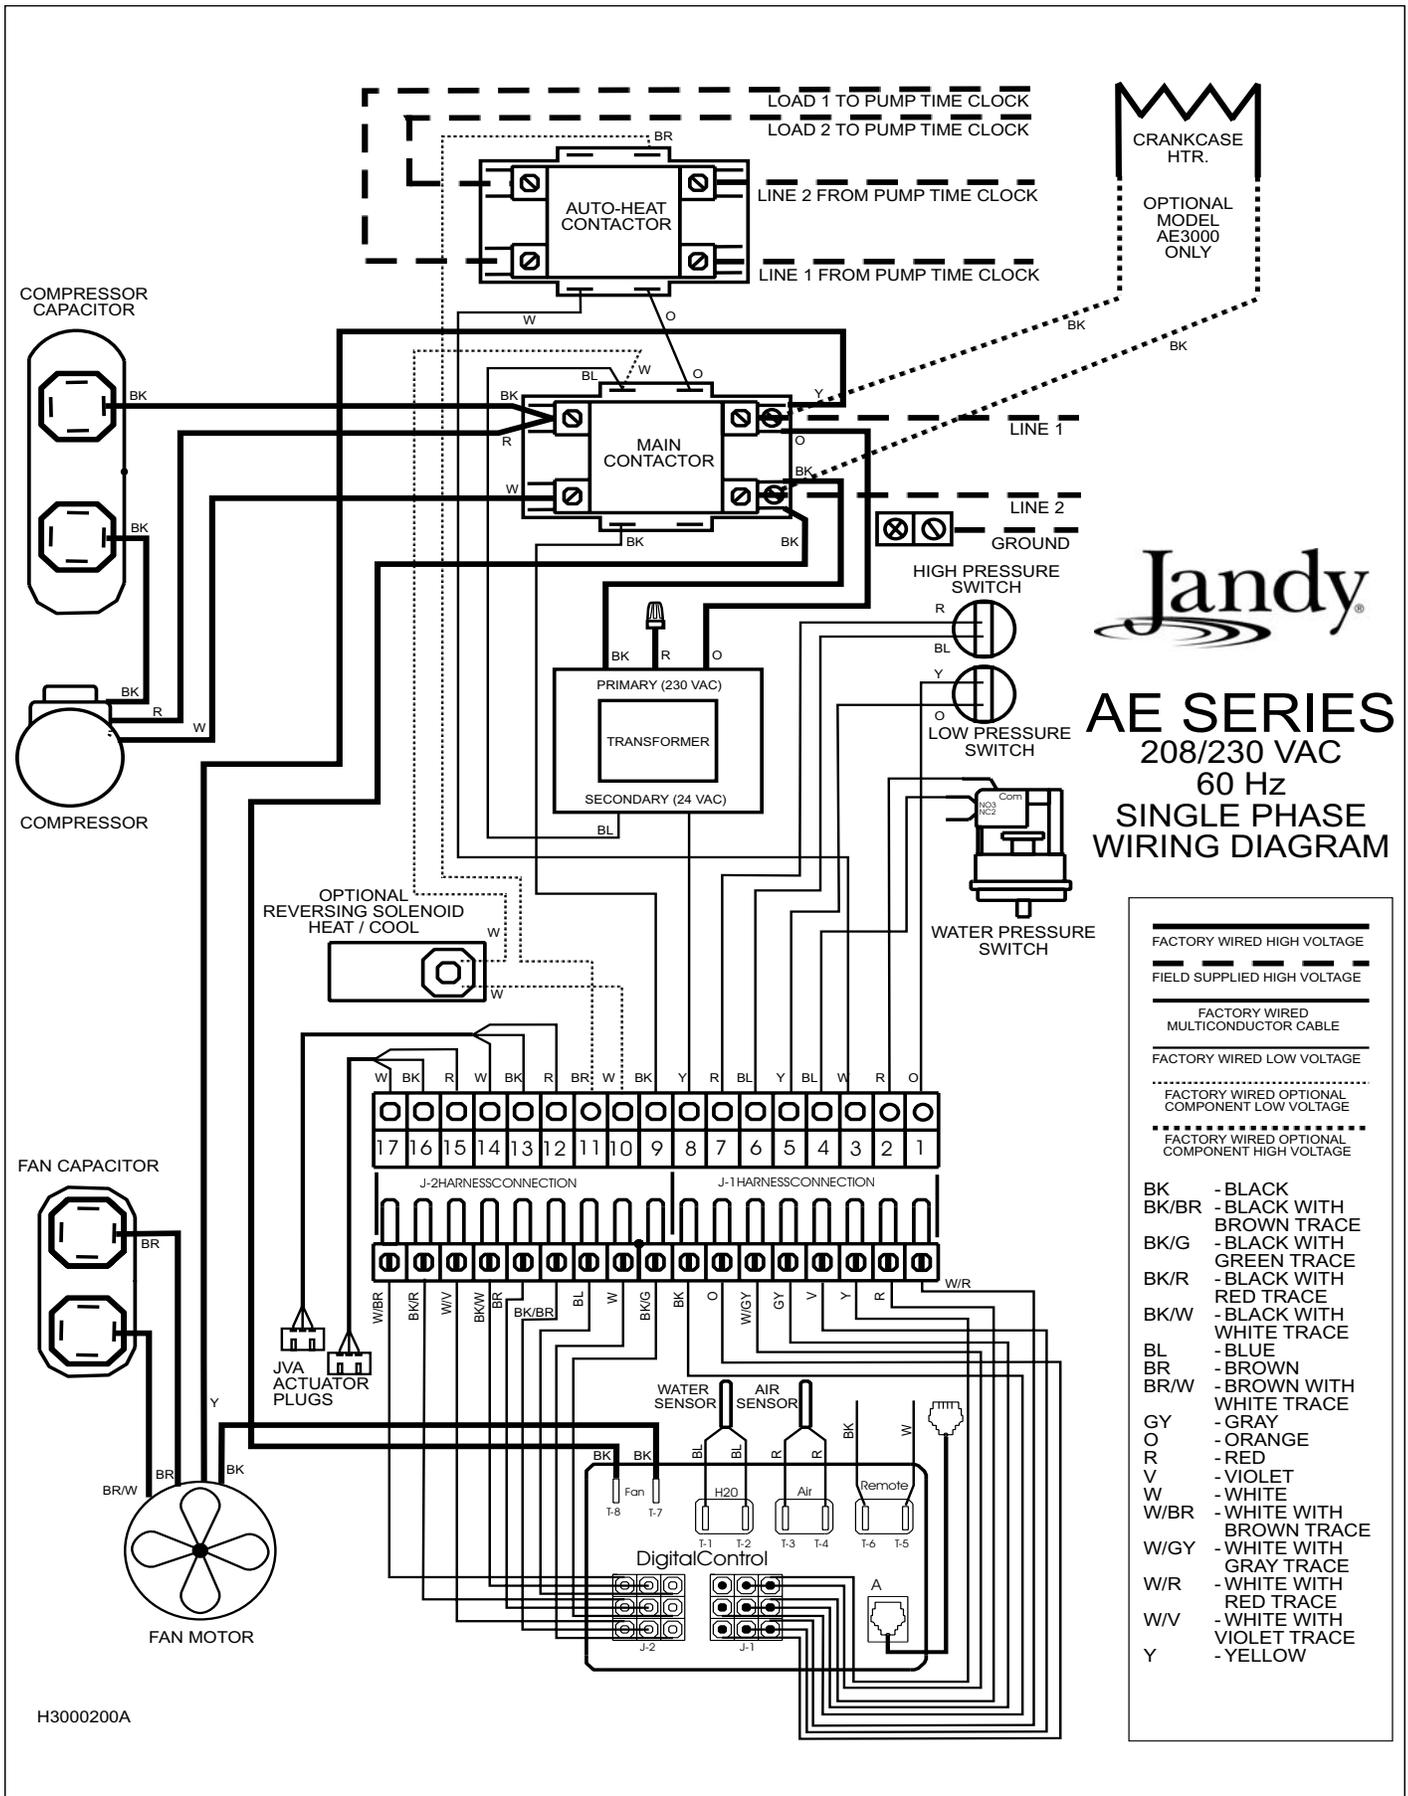
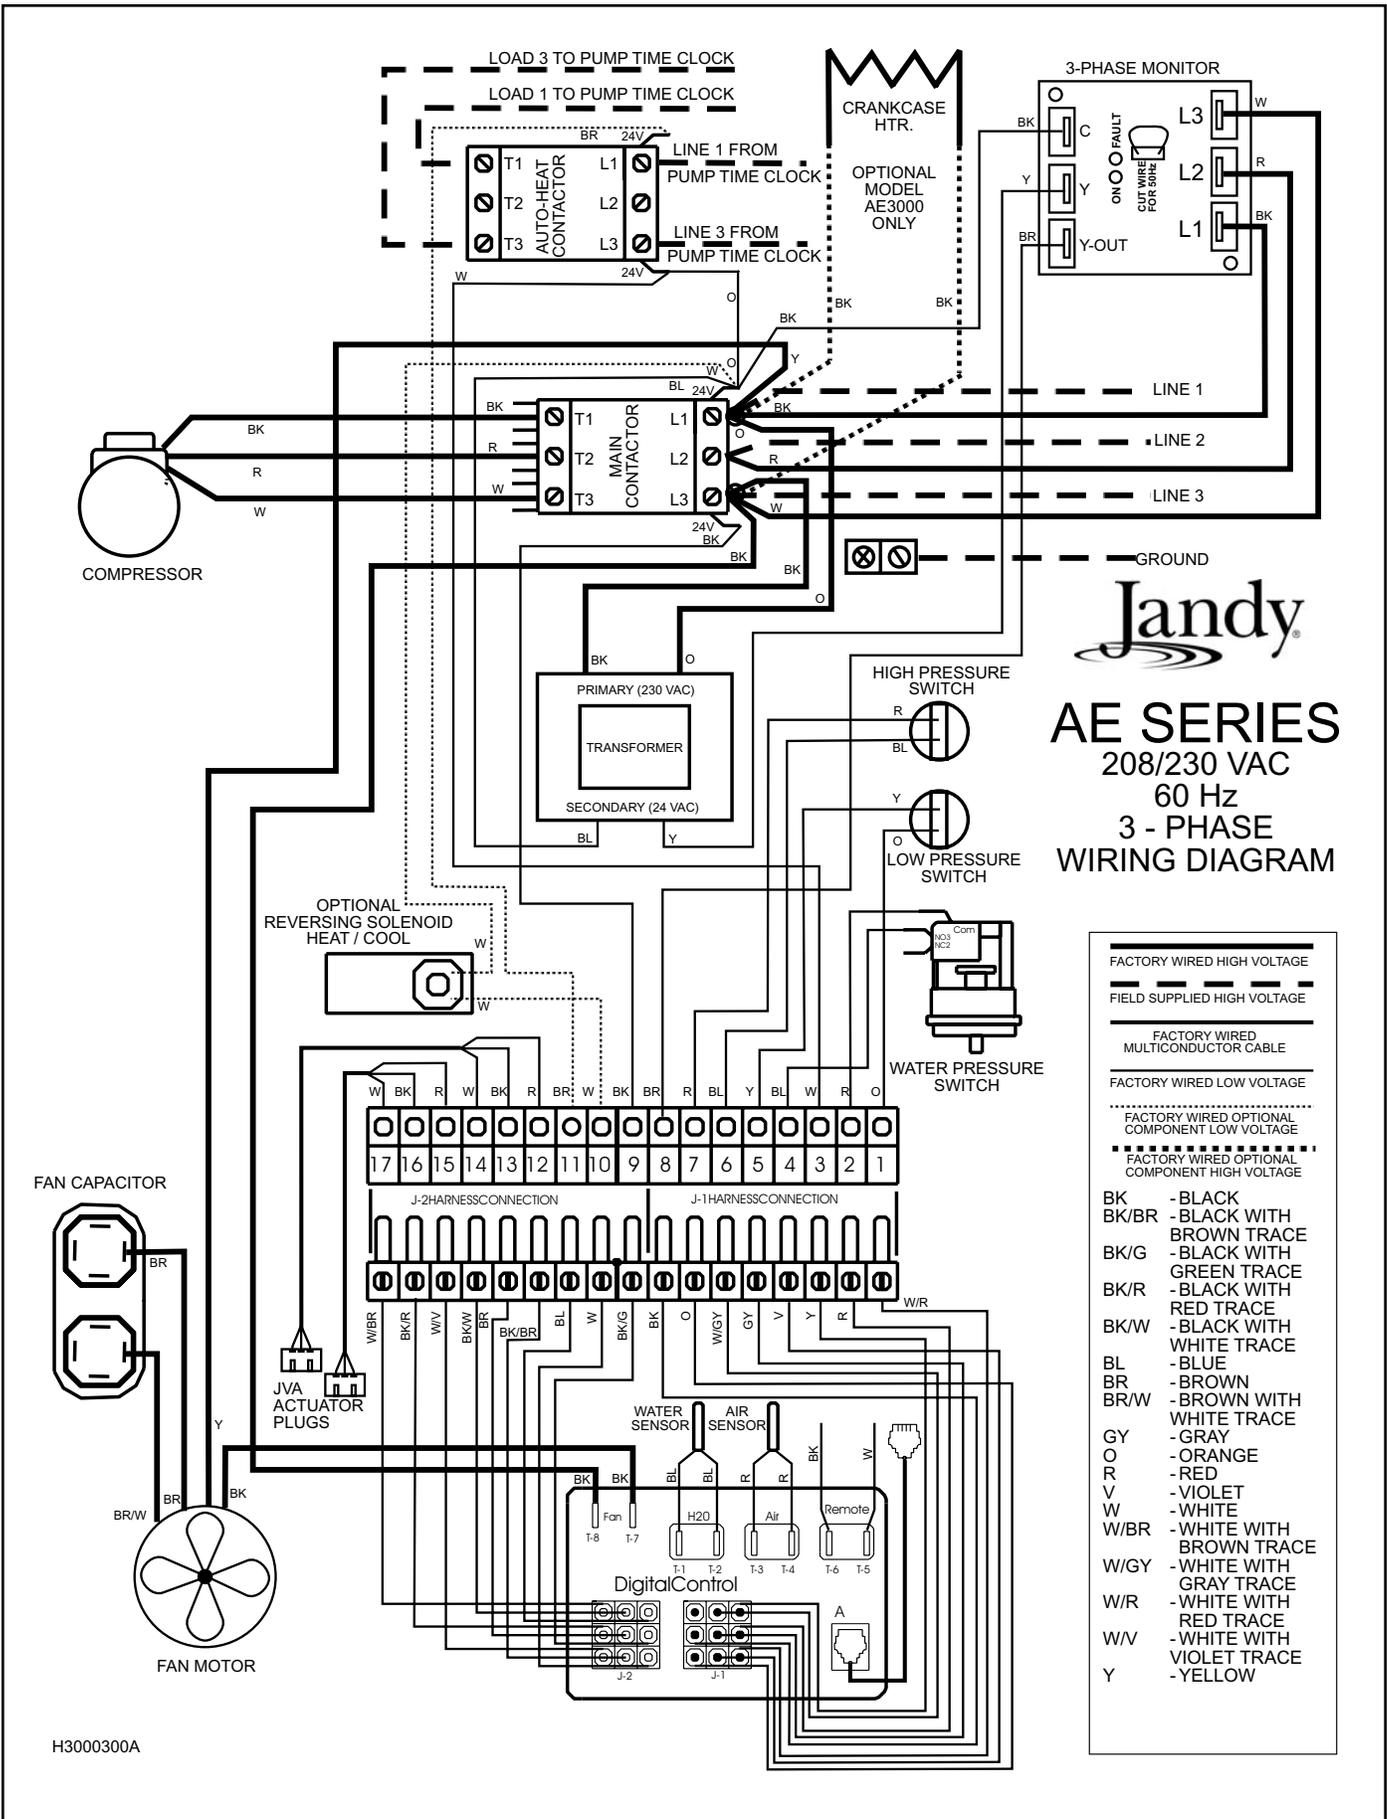

Figure 10. AE-Ti Single-Phase Electrical Supply Wiring Diagram
Figure 11. AE-Ti 3-Phase Electrical Supply Wiring Diagram
Wiring connections must be made exactly as shown in the wiring diagram found on the inside of the heat pump access compartment (see Figure 10 for single phase electrical wiring and Figure 11 for 3-phase electrical wiring). The heat pump must include a definite means of grounding and bonding. There is a bonding lug on the right side of the heat pump, where a bond wire must be attached.
*(Residential only)* When connecting the time clock override parallel circuit, proper phasing must be maintained. Use 12 AWG wire. Follow the wiring diagram on the service access panel of your heat pump, referring to the auto-contactor section (see Figures 10 and 11 on pages 13 and 14). The use of four different color wires will help in maintaining the proper phasing to and from the pool pump time clock.